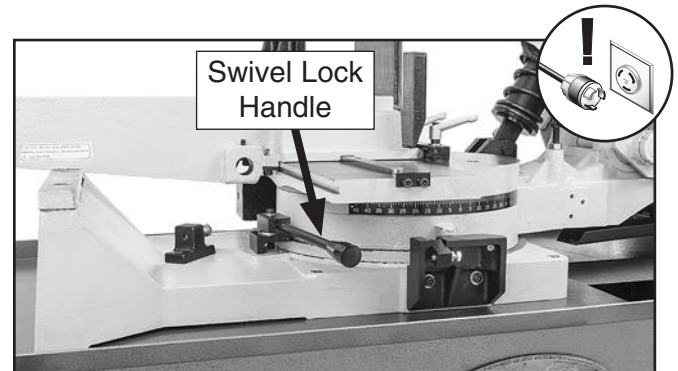

Figure 90. Swivel lock handle location.
- Rotate swivel lock handle (see **Figure 90**) toward base.